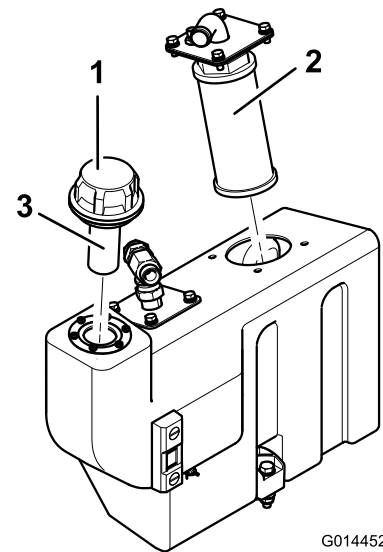

Figure 71
1. Remove the oil tank suction flange to gain access to the suction strainer (Figure 71).
2. Unscrew and remove the strainer and clean with paraffin or petrol before installing (Figure 71).